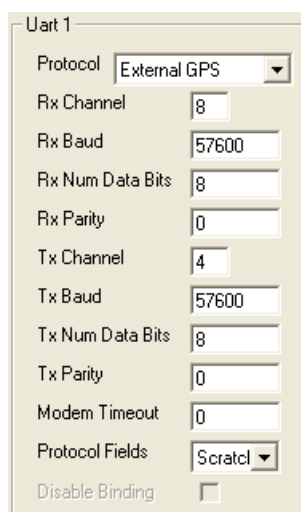

Figure 7 - Comms Tab UART Configuration for LRC2
1. Open the .vrs file with the VRS Editor and select the Comms tab. See Figure 6 - Comms Tab UART Configuration for LRC or Figure 7 for the LRC2. (The LRC2 has slightly different pin-outs on the COM2 connector.)
4. For the LRC2, set the UART Rx Channel to 8 for the suggested connections to the NovAtel GPS as in Figure 7 - Comms Tab UART Configuration for LRC2.